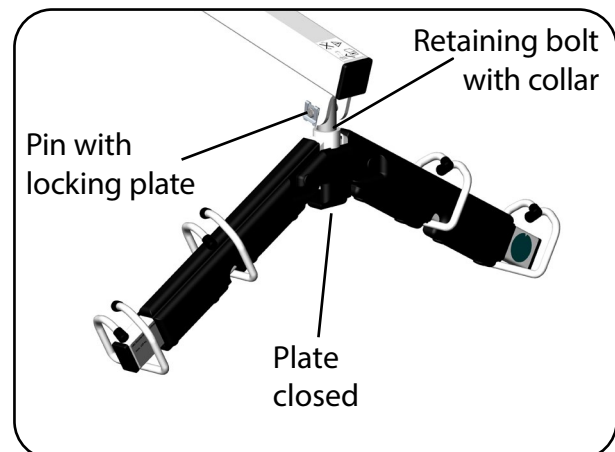

Fig. 6.2.07 - Transportbügel montiert
13. Attach the spreader bar with the inserted retaining bolt with collar to the lifting arm by inserting the bolt through the holes on the end of the lifting arm. Secure the bolt with the locking plate and close the bar padding (plate) (Fig. 6.2.07).